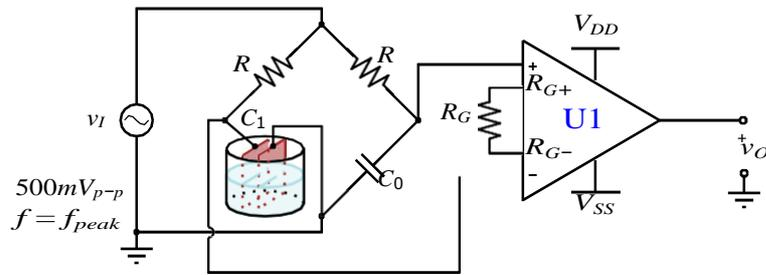

Figure 5: Top-Level System Schematic.
Step 3: Top-Level system architecture is shown in Figure 5. “U1” represents the instrumentation amplifier, which is a type of differential amplifier mostly used in applications where great accuracy is needed. You may purchase an instrumentation amplifier (AD620, INA114 etc..) or build your own instrumentation amplifier with standard opamps as a low-cost solution¹. Set R_G such that the gain of instrumentation amplifier is high enough to measure the output. A gain of 5 to 10 may be enough for good signal separation on the oscilloscope. Apply a $500mV_{p-p}$ sinewave with a frequency f_{peak} found in Step 2. Replace C_0 and R with the values found in Step 1 & 2. Set DC positive (V_{DD}) and negative (V_{SS}) power supplies to an appropriate value using the datasheet of your amplifier.